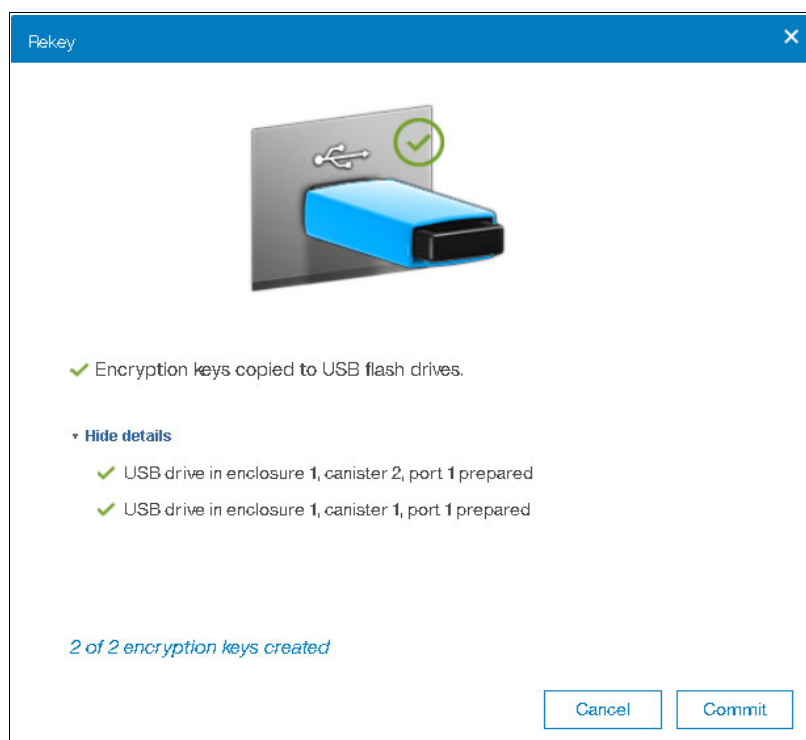

Figure 7-68 Rekey
2. When the FlashSystem 900 detects the required number of the USB flash drives with at least one drive that contains a key, the new key is generated and copied to the USB flash drives. In the Rekey window (see in Figure 7-68), expand Show details. Both USB flash drives are in prepared state for the new key. Click **Commit** after the key is created to complete the rekey operation.